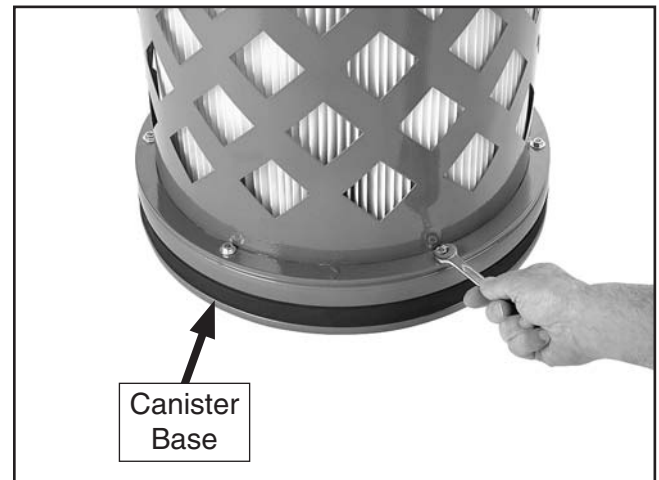

Figure 64. Removing the hex nuts and flat washers from the rim of the canister base.
5. Remove the six hex bolts, hex nuts, and flat washers from the rim of the canister base, as shown in **Figure 64**.